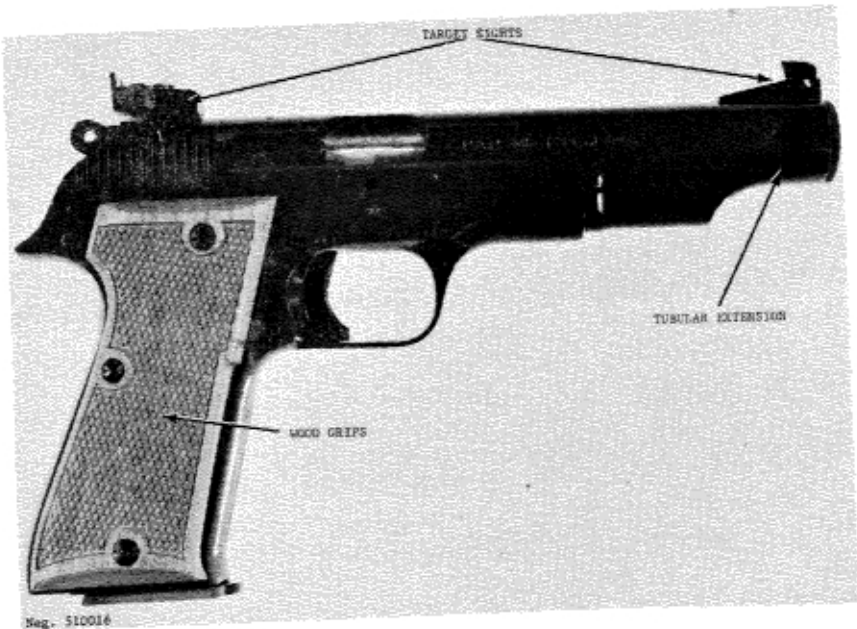

Figure 17. French M.A.B. P15- PAP Model F1.
c. There are several versions of the P15; these include the standard model, the P15S (fig 16) and a target model, the PAP Model F1 (fig 17). The latter is identified by its target sights and tubular slide extension.